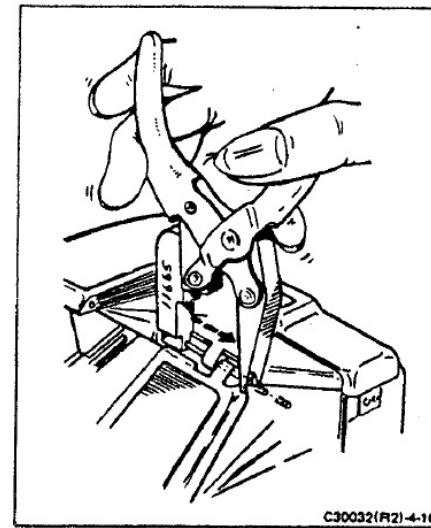

FIGURE 4-10 REMOVING SHORT-COVER-TO-MIRROR COVER HINGE PINS
- Using Special Tool #11665, remove the two short-cover-to-mirror-cover hinge pins (Figure 4-10).